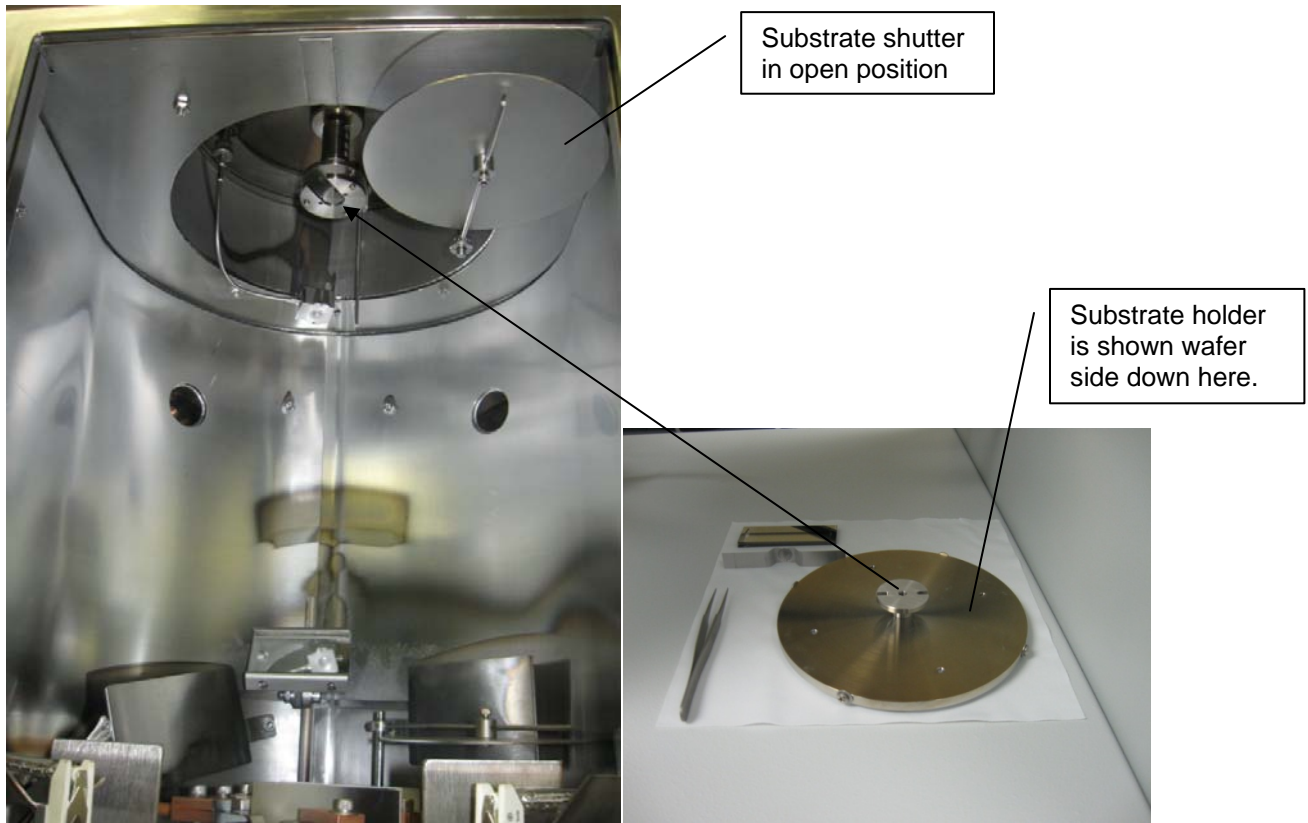

Figure 6: Installing the substrate holder.
- b) Turn the plate over with substrate facing down now and transfer through the door under the mounting structure (Figure 6).